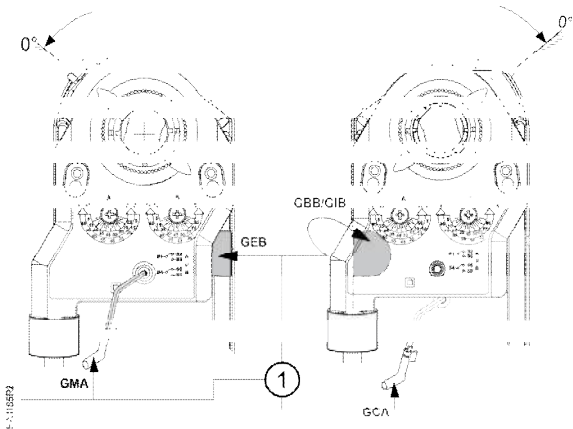

Figure 11. Manual Override.
**NOTE:** When EAS is installed, you can still access the manual override capability as shown in Figure 11.